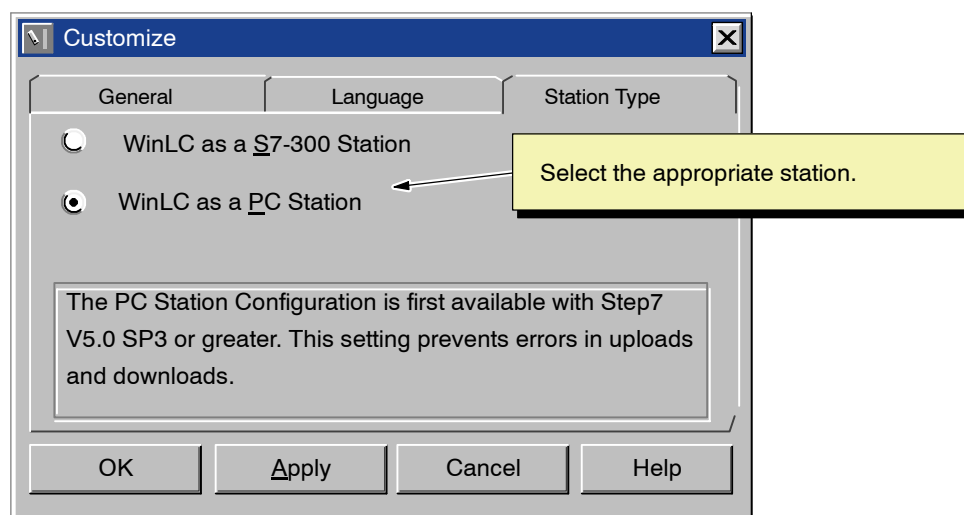

Figure 3-5 Setting the Station Type
3. As shown in Figure 3-5, select the appropriate station type.